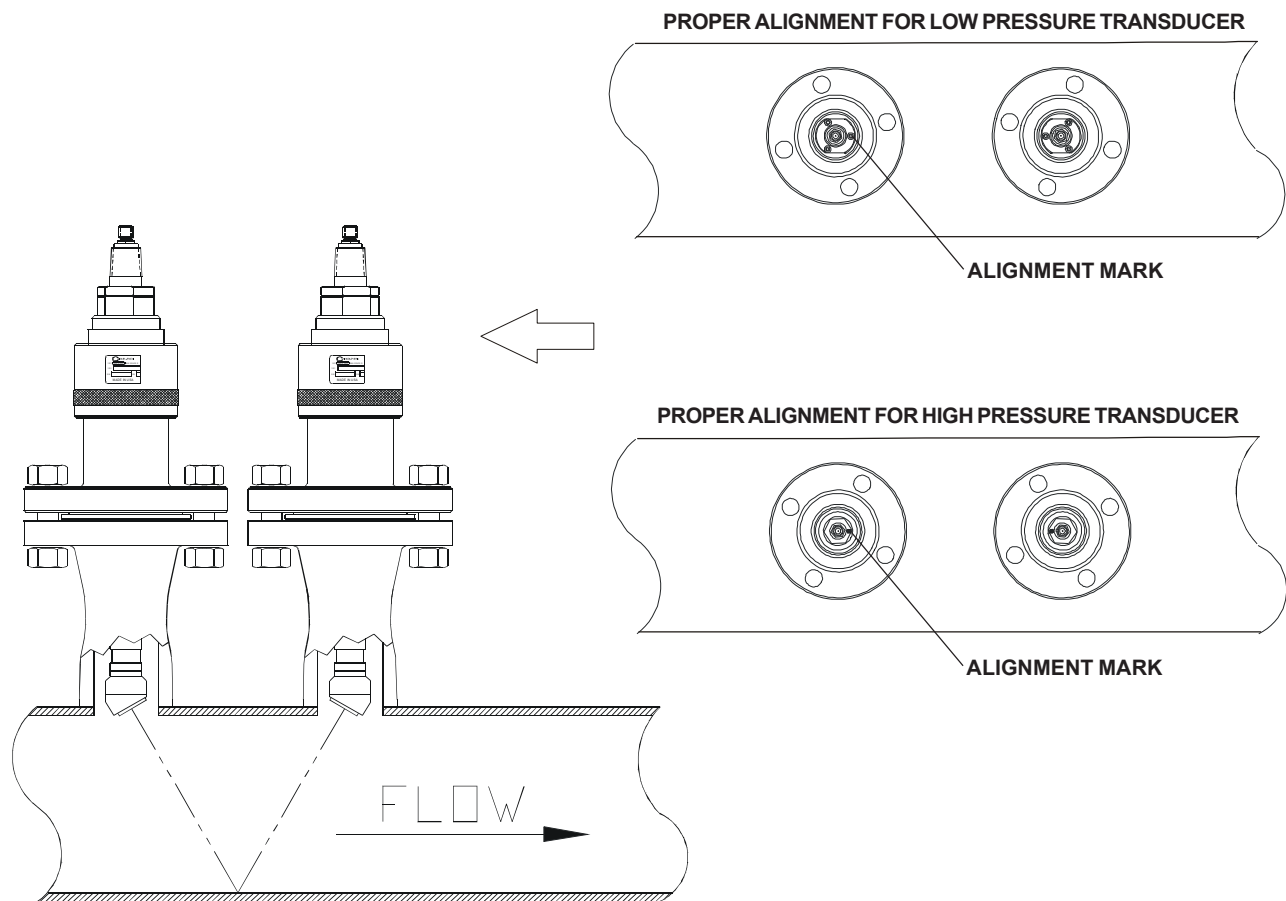

**FIGURE 8. TRANSDUCER ALIGNMENT**
15. After the retriever is removed the 1011GS150A, 1011GS300A and 1011GS600A series transducers must be rotated into the correct position to obtain proper beam direction. Using a 1-1/4" wrench rotate the transducer counterclockwise to properly align the transducers along the axis of the pipe (refer to Figure 8 above).
Step 5.11. The transducer will meet with a positive stop after 14 or 15 turns of the outer barrel. Do not over tighten. NOTE: The 1011GS900A and 1011GS1500A series transducers must be rotated into the correct position to obtain proper beam direction. Using a 1-1/8" wrench rotate the transducer counterclockwise to properly align the transducers along the axis of the pipe (refer to Figure 8).